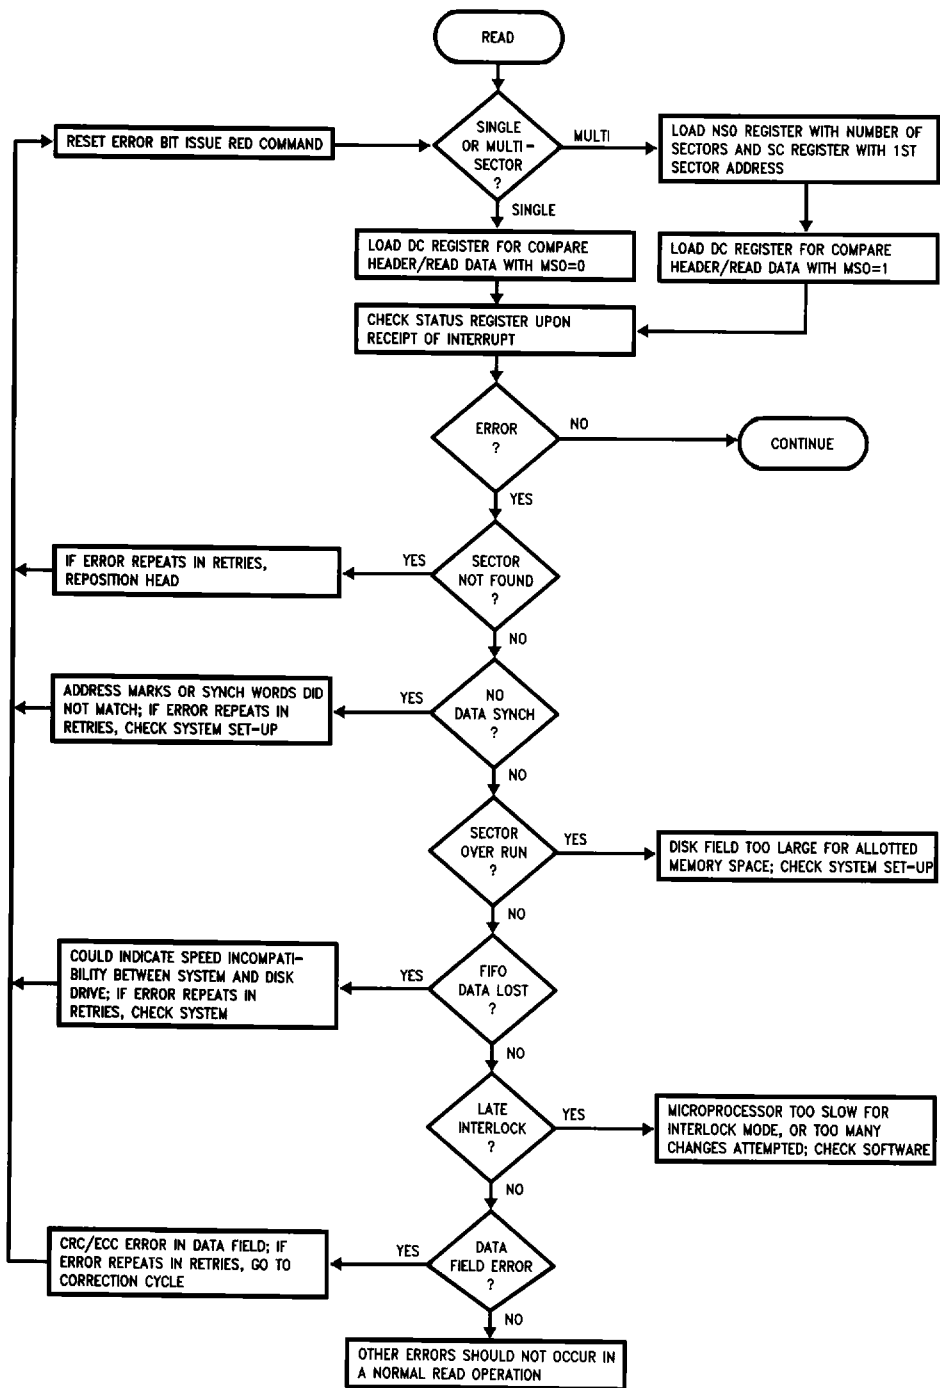

FIGURE 10. Simple Read Operation
For initiating Read/Write operations, the necessary format registers need to be loaded with the appropriate information to enable the DDC to identify the desired sector. Multi-sector operations will also require the Number of Sector Operations (NSO) counter and the Sector Counter (SC). Algorithms outlining the read/write operations are shown in *Figures 10* and *11*. For each of these, it is assumed that the parameters for the desired sector(s) have been loaded, and that the head is positioned over the proper track.